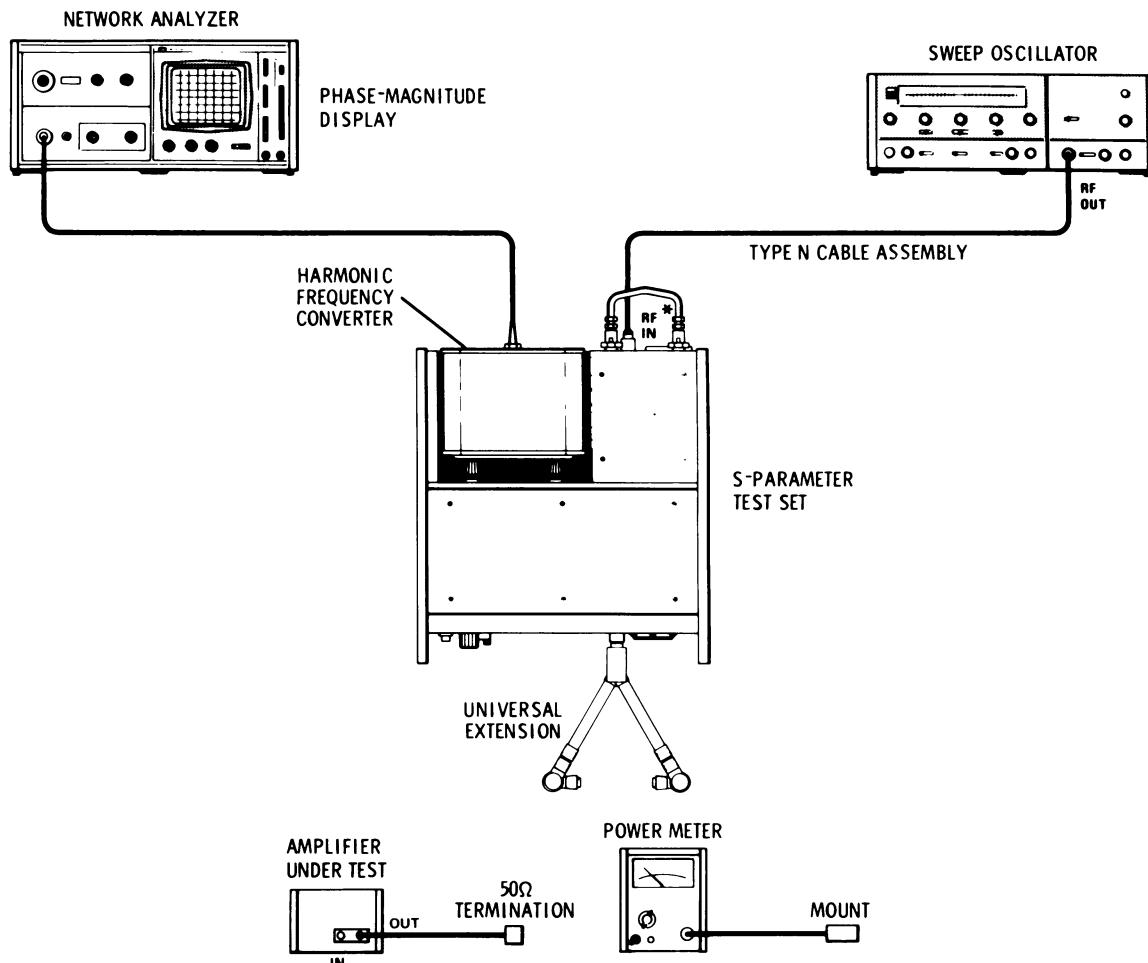

Figure 6. VSWR Test Setup: 0.11 to 1.3 GHz
6. Connect the equipment as shown in Figure 6. Set the sweep oscillator for a leveled CW signal, sweeping from 110 to 220 MHz. Connect the power meter to s-parameter test set INPUT PORT A and set the generator/sweeper's output level for  $-15$  dBm as read on the power meter.